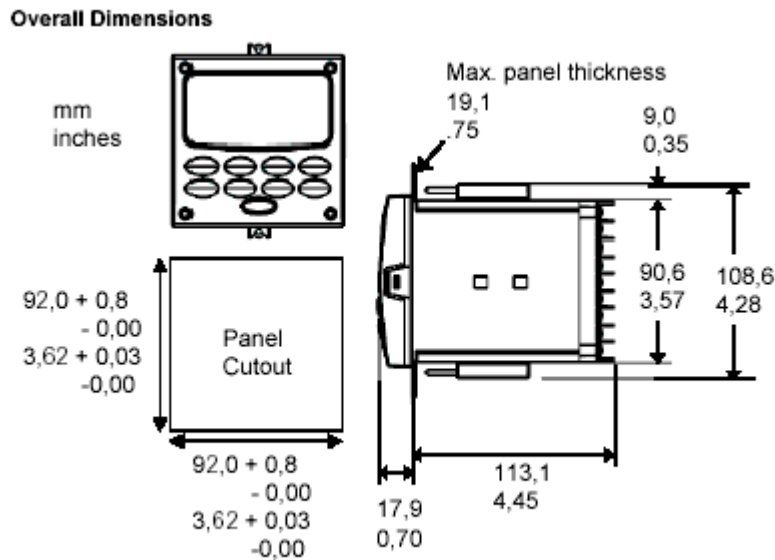

Figure -1 Mounting Dimensions (not to scale)
- Overall dimensions and panel cutout requirements for mounting the controller are shown in Figure -1.
1	Mark and cut out the controller hole in the panel according to the dimension information in Figure -1.